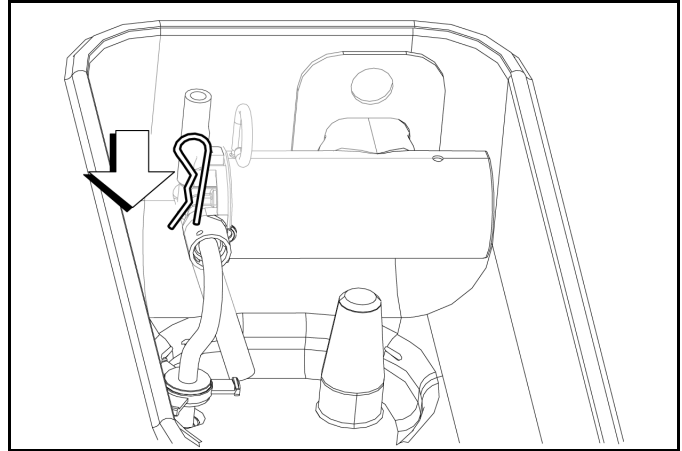

Figure 6-43
4. Install the pump end of the mix feed tube and **secure with the cotter pin**. (See Figure 6-43.)